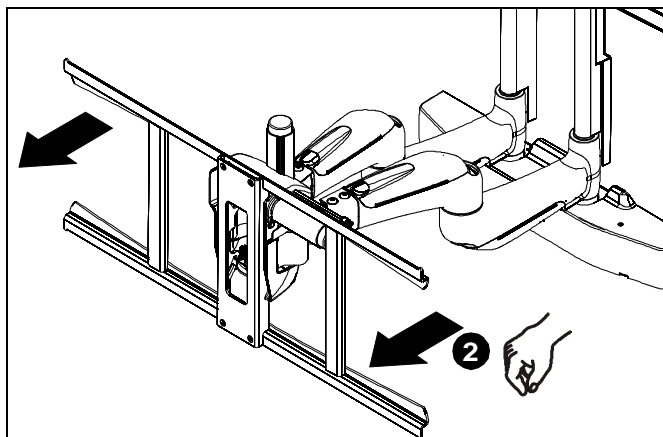

Figure 21
2. Carefully pull arms out from wall. (See Figure 21)